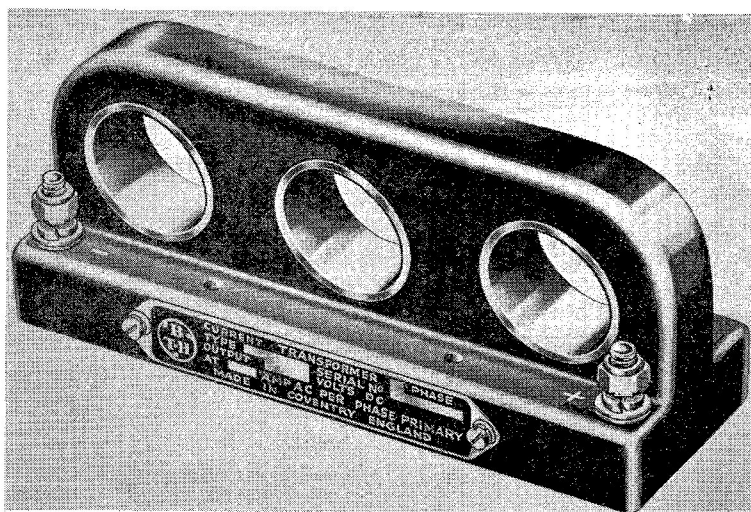
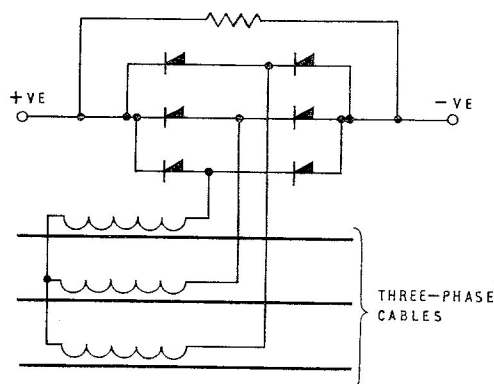

Fig. 1. Transformer, Type LTB, Form Y1/1
Fig. 2. Circuit diagram
4. A general view of the current transformer is shown in fig. 1 and a circuit diagram is given in fig. 2. It consists of three separate secondary windings, six silicon rectifiers connected as a three-phase bridge rectifier and a shunt connected across the d.c. output of the bridge. These components are fitted into a moulded case which is filled with an epoxy-resin compound to seal the assembly.